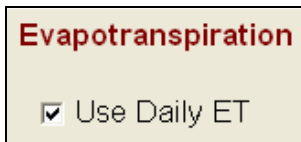

Figure 16.4.3A
2. If you plan on using Daily ET check the **Use Daily ET** box (Figure 16.4.3A).